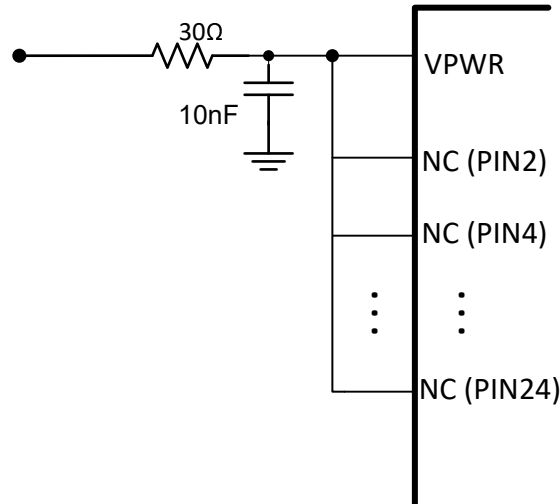

Figure 9-8. NC Pins Tied to VPWR
- Short unused NC pins between 2 and 24 (including 2, 24) to VPWR as shown in Figure 9-8.
All NC pins between pin 1 and Pin 25 need to be tied to VPWR as shown in Figure 9-8.